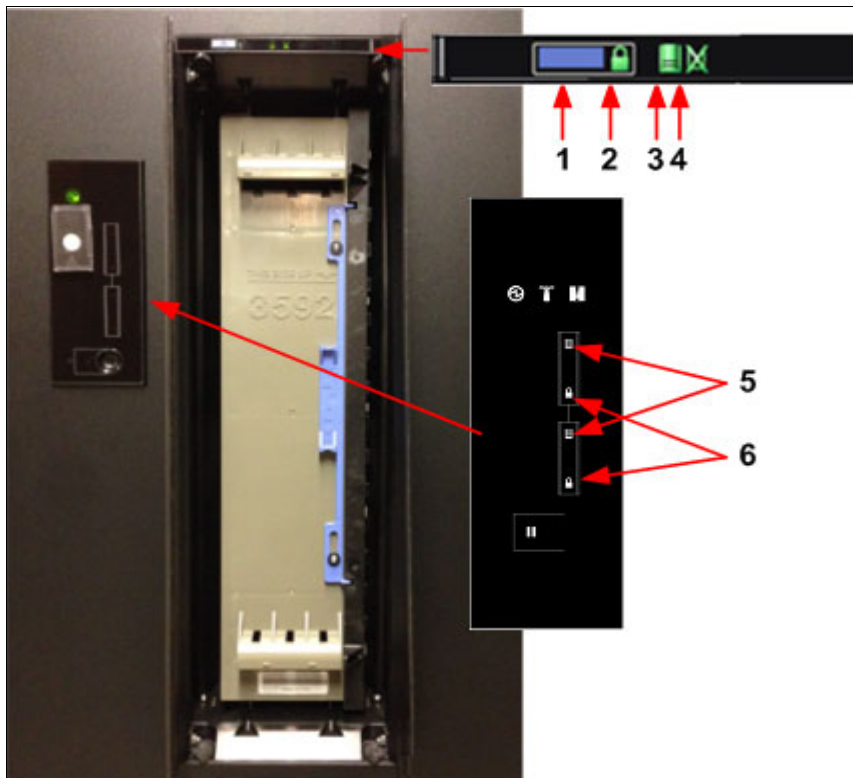

Figure 1-40 I/O station LEDs and panels
You can remotely use the I/O station action menu, which is available from the System page of the TS4500 management GUI, to open and close the I/O station doors. At the library, you can press the eject button (which is numbered 1 in Figure 1-40) to open and close the doors. When the doors are open, it is possible to manually remove and replace the cartridge magazine to insert or remove cartridges.
Figure 1-40 shows the top I/O station and panels, which control and show the state of the I/O station.
When the doors are closed, the cartridge accessor can access the cartridges. The lock status LED that is next to the eject button (numbered 2 in Figure 1-40 on page 48) indicates that the I/O station is locked because the accessor can insert or remove cartridges. Do not attempt to open the I/O station when the lock status indicator is illuminated.
**Important:** Use only the eject button (which is numbered 1 in Figure 1-40 on page 48) or the management GUI to open and close the I/O station doors. Do not attempt to open or close the doors manually.
*Table 1-14 I/O station (numbers correspond to Figure 1-40 on page 48)*